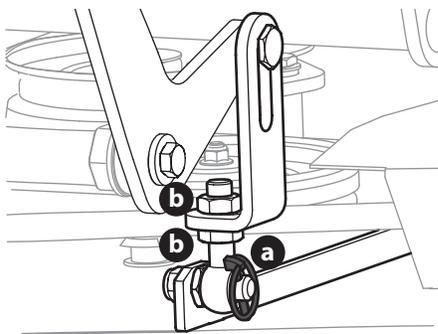

Figure 45
3. Adjust the eyebolt (a) at the left front of the deck so that the blade-to-ground height at the right outside blade tip matches that of the left outside blade tip. This is done by loosening the jam nuts (b) on the eyebolt (a) and tightening the upper jam nut (b) to raise the deck and loosening the jam nut (b) to lower the deck. The right outer blade tip height is fixed by the right, front eyebolt (a) so you must adjust the left outer tip to match it (Figure 45).
4. Once the proper adjustment is made, re-tighten the jam nuts (b) (Figure 45).
3. Loosen the jam nuts (b) at the rear left and right of the deck eyebolts (a) (Figure 45).
4. Start at the rear right to raise the rear of the deck, tighten the upper jam nut (b) to raise the deck or loosen the upper jam nut (b) to lower the rear of the deck (Figure 45).
5. Adjust the jam nut (b) at the rear left to take the "slack" out of the threaded rod (Figure 45).
6. Tighten both lower jam nuts (b) to secure the deck adjustment (Figure 45).
7. The final adjustment would be to take the "slack" out of the left rear linkage if the rear of the deck was raised by adjusting the jam nuts (b) on the eyebolt (a). Loosen the jam nuts (b) and tighten the upper jam nut (b) to remove "slack" (Figure 45).
8. In many cases it will be necessary to adjust deck height using both eyebolt (a) adjustments and pitch adjustment to achieve the correct blade-to-ground heights. If you remember that the front right blade tip adjustment is fixed and you level to that height, adjusting the decks will be simplified (Figure 45).